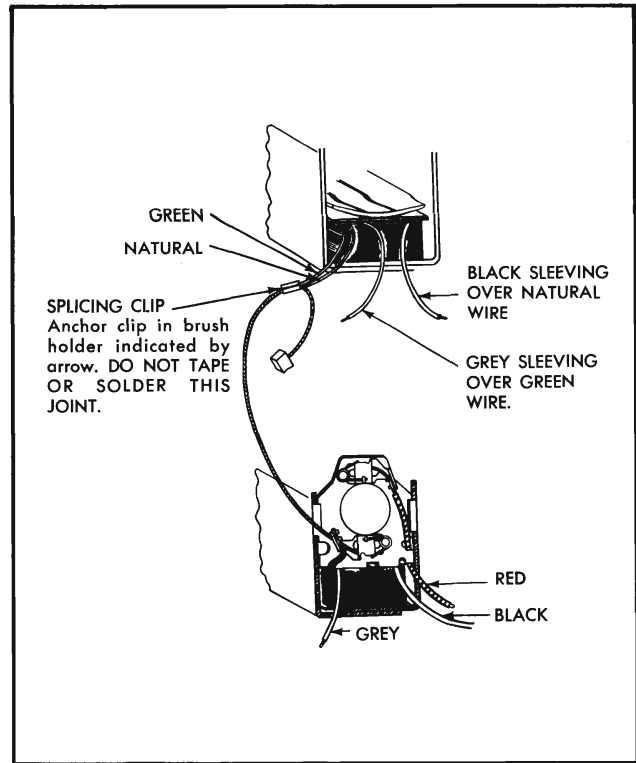

Fig. 11-95 Internal Wiring
0	(1) Loose solder connection at wiper terminal No. 2. (2) Loose splice joints (Fig. 11-95).
Except for the internal wiring to the wiper terminal board, the disassembly-assembly procedures for the two speed wiper covered in this section are the same as those outlined for the single speed wiper. See Fig. 11-95 for internal wiring.